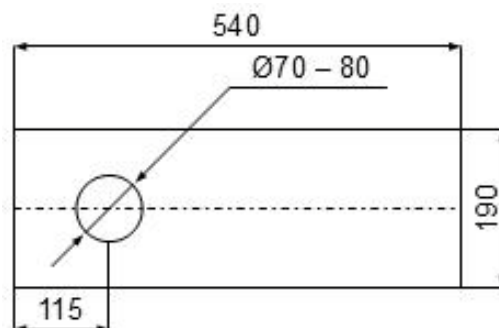

Figure 3-1 Workbench surface
1. The workbench is solid enough to support the testing machine and accessories. The bench surface should have a hole on it for screw spindle to travel through. Refer to **Figure 3-1**.